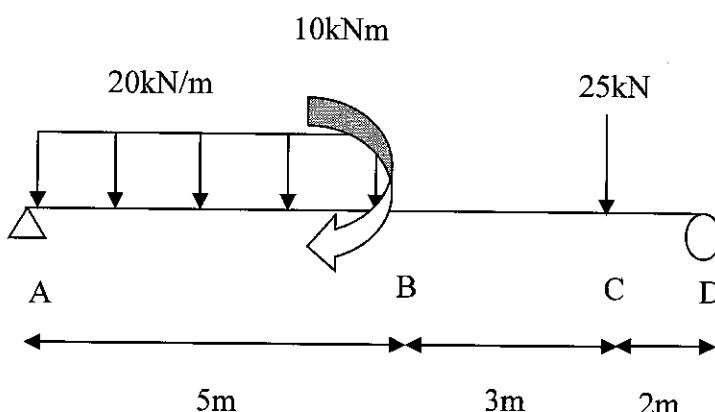

Figure B4 / Rajah B4
Based on Figure B4:
- CLO2 (a) By using Macaulay's method, show the moment equation for simply supported beam as shown in Figure B4.